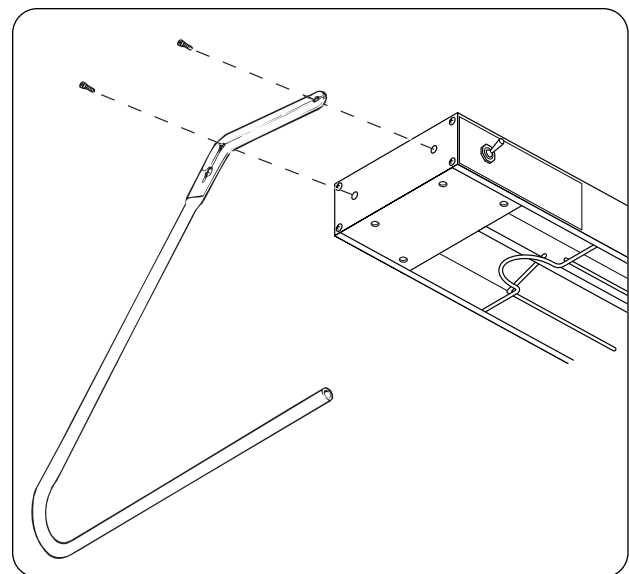

Figure 14. C-Leg Stand
3. Attach C-Leg to each end of unit using original screws. (See Figure 14.) Tighten screws securely.